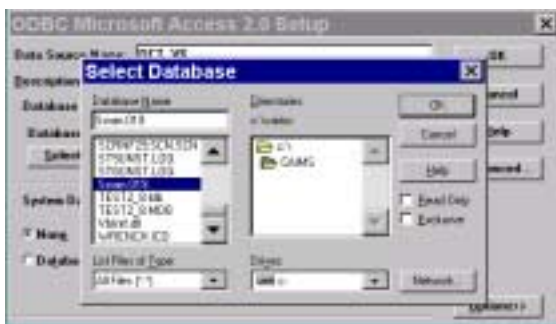

Figure 15 ODBC “Select Database” Window
18. On the “Select Database” window, to view all file names, select “All Files(*.*)” in the “List Files of Type” field and select the LDI (e.g. Swan.019) from the C:\CAIMS directory using the given browser. See Figure 15.
19. On the “Select Database” window, Select “OK”. See Figure 15.